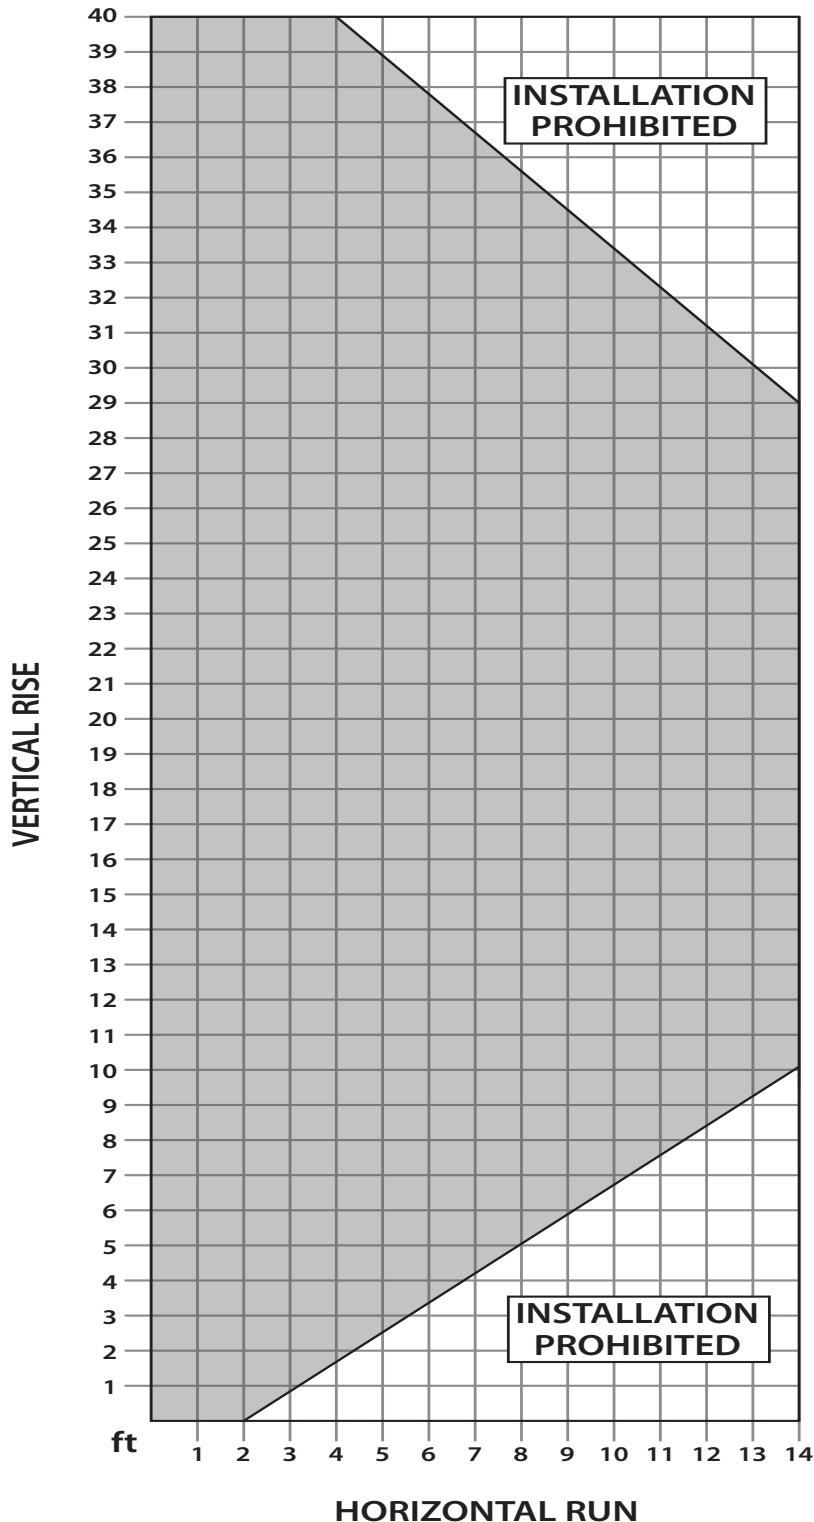

Figure 32.1 Possible Vent Configurations for Top Vented Vertical and Horizontal Terminations.
Figures 32.1 & 32.2 show the range of possible vent configurations if the unit is top or rear vented, for vertical and horizontal terminations. Any layout that remains within the shaded areas is acceptable. Having the fewest number of elbows is ideal, as they tend to disrupt air movement. Using 45° elbows is preferable to using 90° elbows. Also, a shorter vent system will perform better than a longer one. When top vented, the total length of horizontal vent pipe can not exceed 14 feet (4.27m) and the total vent length can not exceed 44ft (13.4m). Any combination of rise and run can be used as long as it lays within the shaded area (a total of two (2) 90° elbows or four (4) 45° elbows can be used. In addition to what is shown, if a 90° elbow is used in the horizontal plane, 3 feet (91.4cm) must be subtracted from the allowable horizontal run (for each 45° elbow, 1½ feet must be subtracted).